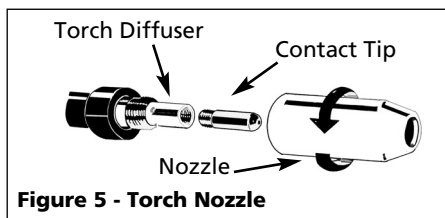

Figure 5 - Torch Nozzle
- Wire matches contact tip in end of torch (See Fig. 5).
- Unscrew nozzle and contact tip from end of welding torch (See Figure 5). Plug welder into a proper power supply receptacle.
- Carefully slip contact tip over wire, screw tip into torch end and reinstall nozzle (See Figure 5). Cut wire off approximately 1/4 inch from nozzle end.